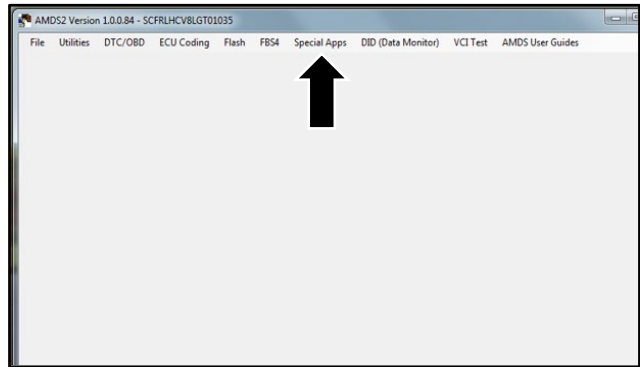

Figure 10
- In AMDS 2.0 click the “Special Apps” button (refer to Figure 10).